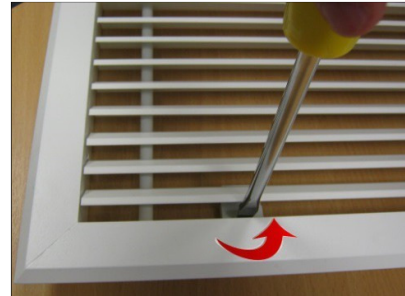

Fig 6
Step 1 Open the hinged inlet grille using a flat bladed screwdriver to release the quarter turn fasteners (see Fig 6). There are two fasteners on the T1000R unit and three fasteners on T1500R and T2000R units. Before lifting the grille frame into position, remove four (six on T1500R/T2000R) M6 bolts fitted on the inside edge of air curtain.